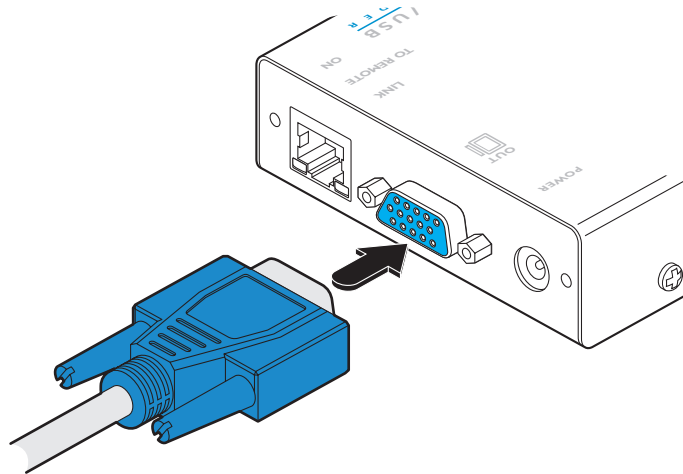

Figure 3-5. Optionally attaching a video display to the local module
- 3 Optionally connect a local video display to the video out feed-through connector on the local module as shown in Figure 3-5: